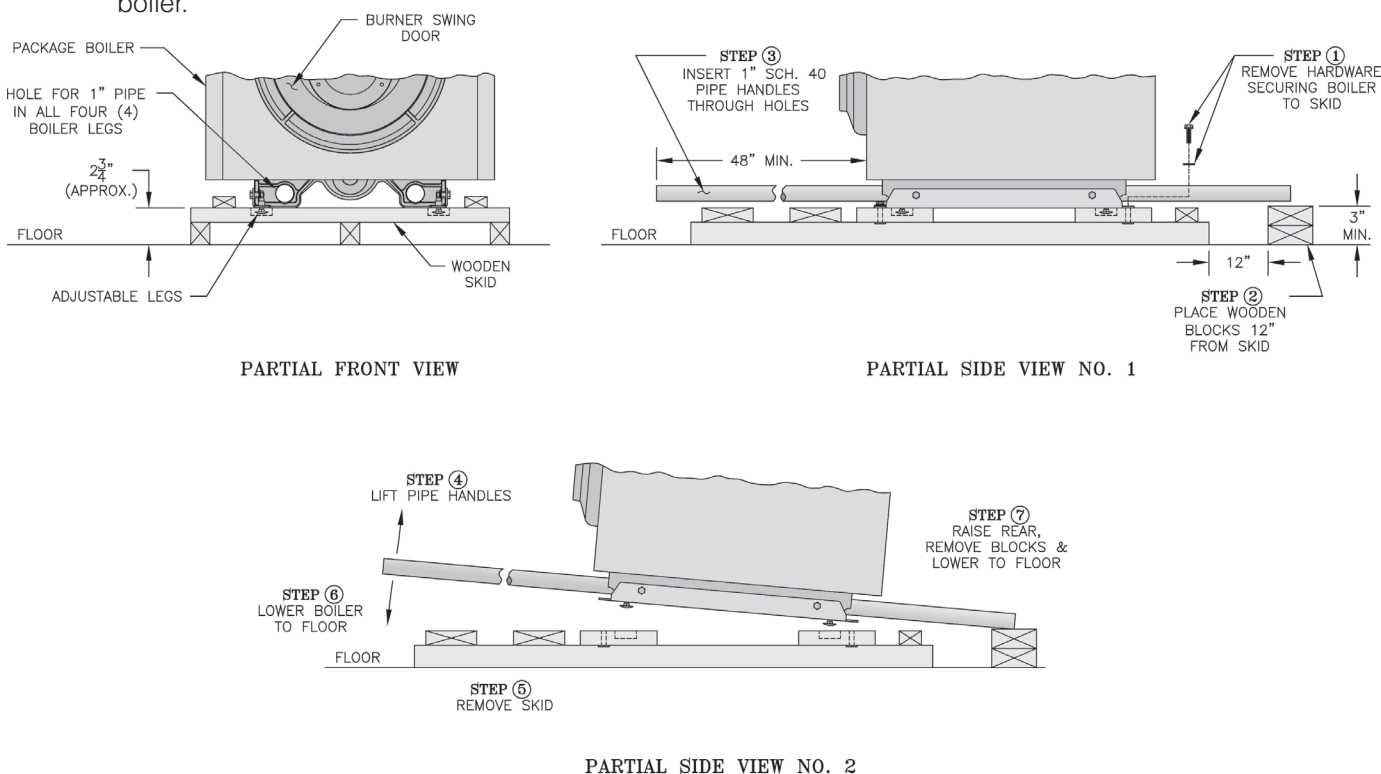

Figure 3: Packaged Boiler Removal from Skid
1. To reduce the risk of damage to boiler jacket, use the following procedure to remove from skid, see Figure 3:
Step 1. Boiler is secured to base with (4) 5/16" cap screws, (2) in front and (2) in rear of shipping skid, see Figure 3. Remove all securing hardware.
Step 3. Insert 1" Sch. 40 pipe handles through leg hole in front and rear legs. Center end of pipe on wooden blocks as shown in Figure 3.
Step 7. To lower rear of boiler, tilt unit slightly forward by pushing on smokebox collar or lift pipes protruding through rear legs until wooden blocks can be removed (see Figure 3). Slowly allow the weight of the boiler to tilt backward until rear legs rest on floor.